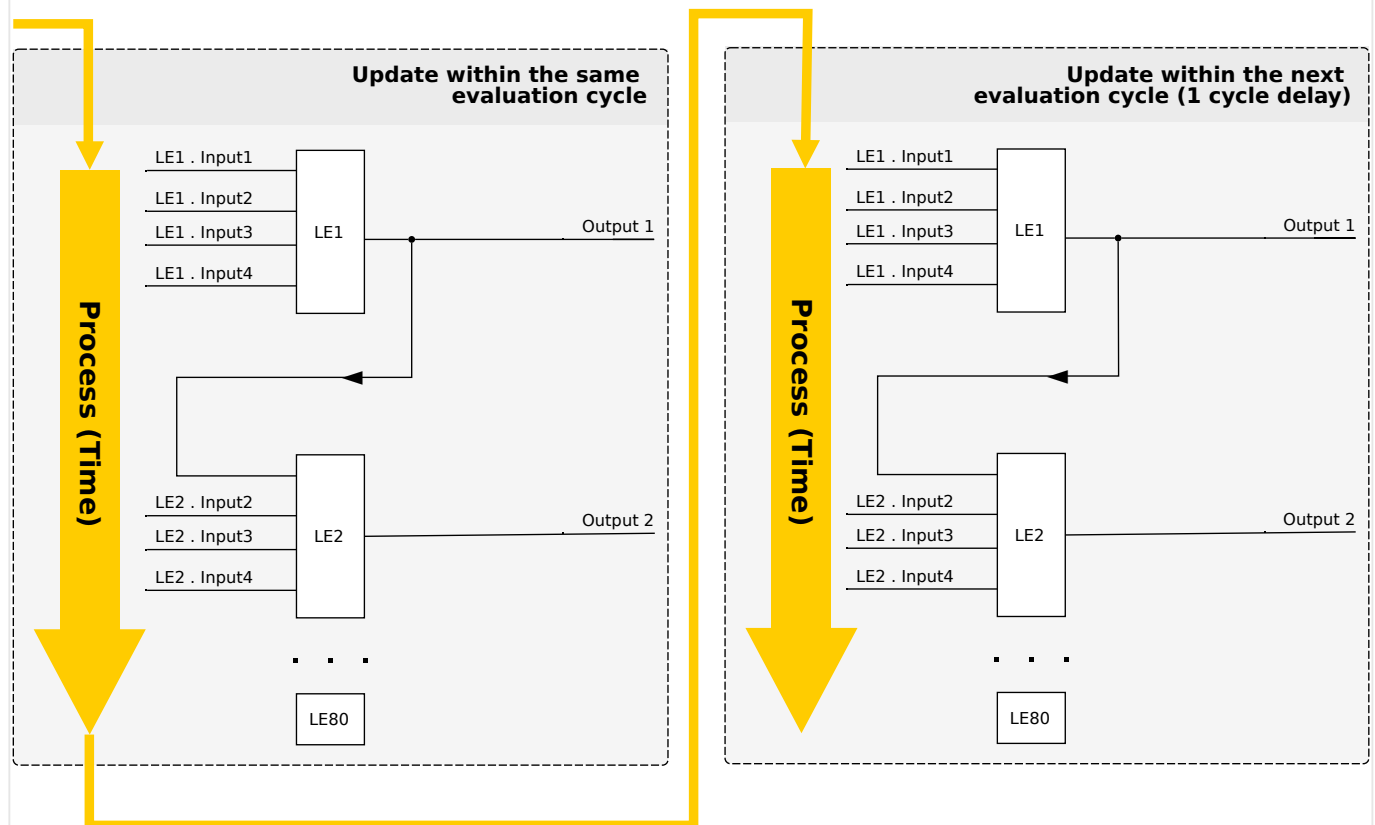
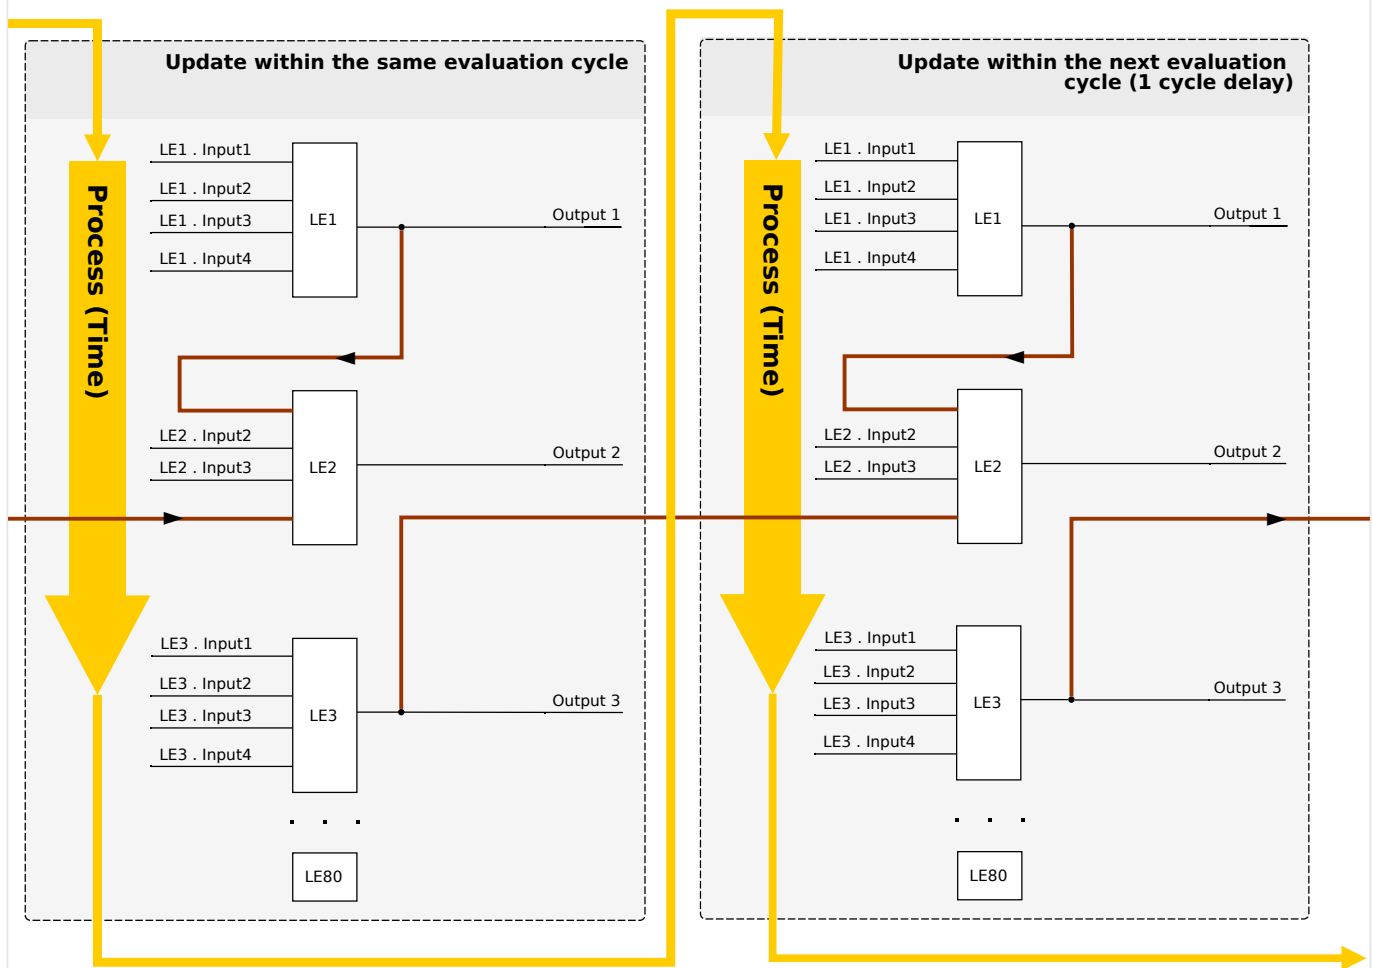

Fig. 176: Cascading in Ascending Order.
Fig. 177: Cascading in Descending Order.
- **Ascending** sequence means that some output is fed into the input of a logic equation with **higher** number. For instance, diagram  Fig. 176 below shows an example where the result of Logic Equation LE1 is used as an input of Logic Equation LE2.
- **Descending** sequence means that some output is fed into the input of a logic equation with **lower** number. For instance, diagram  Fig. 177 shows an example where the result of Logic Equation LE3 is used as an input of Logic Equation LE2.
Both ascending and descending sequences may be used and combined one with the other, with no immediate difference. However, due to the evaluation of all equations in ascending order the actual run-time values that are fed in at the input of an equation will have a different “age”, as is shown in  Fig. 176 and  Fig. 177 below.
In the example shown in  Fig. 177 above, “Logic Equation 2” uses the output states of two other equations, “Logic Equation 1” and “Logic Equation 3”. The result of “Logic Equation 1” is used in ascending order and has therefore been evaluated within the same process cycle. The result of “Logic Equation 3” is used in descending order and has therefore been evaluated in the previous process cycle.